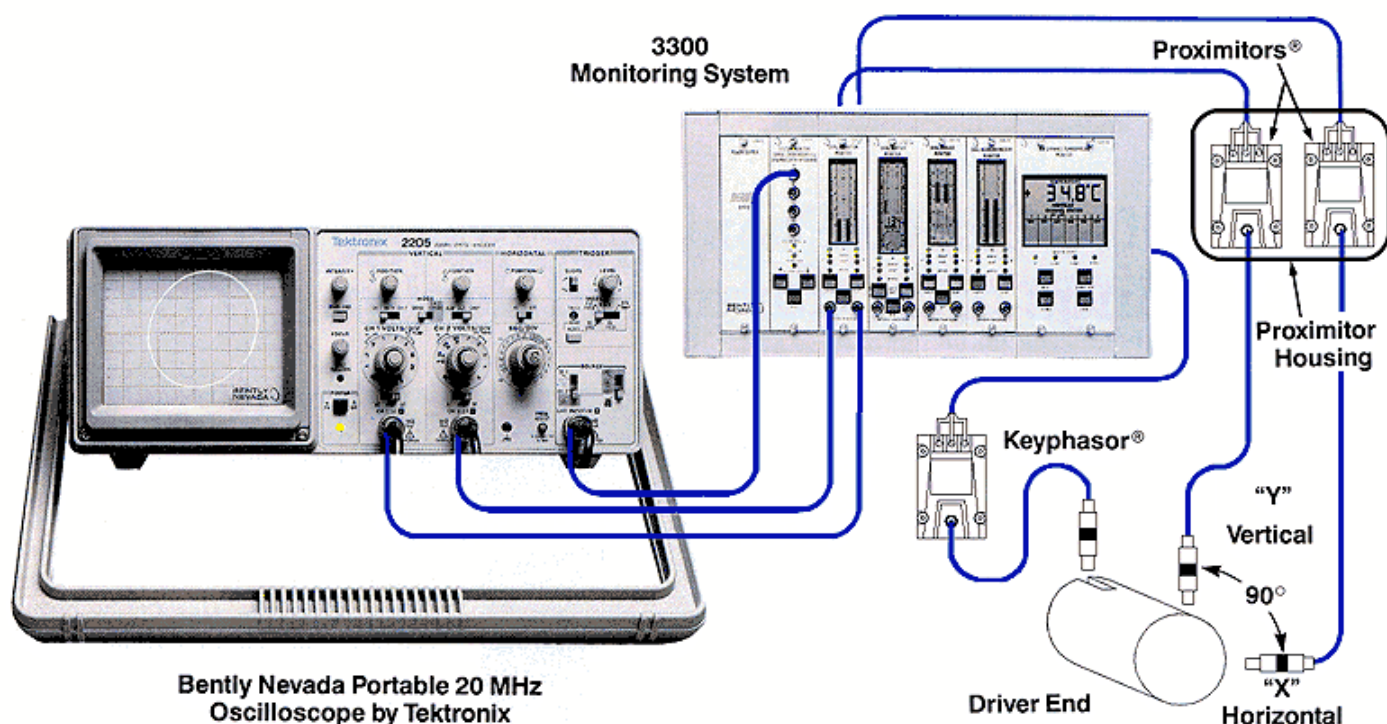

Figure 1
2. As viewed from the driver end of the machine train, the vertical (Y) transducer is always located 90 degrees counterclockwise from the horizontal (X) transducer. This convention is followed regardless of the direction of shaft rotation. (See Figure 1.)
3. Bently Nevada 3300 Dual Radial Vibration Monitors locate vertical (Y) transducers on Channel A and horizontal (X) transducers on Channel B.